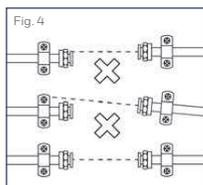

Fig. 4
3. It is essential that stresses due to poor installation methods should not act across the meter body. Ensure the correct gap is provided in the pipework to fit the meter length. Ensure the upstream and downstream pipe connectors are aligned and sealing faces are parallel. Ensure upstream and downstream pipework is firmly anchored (Fig. 4).